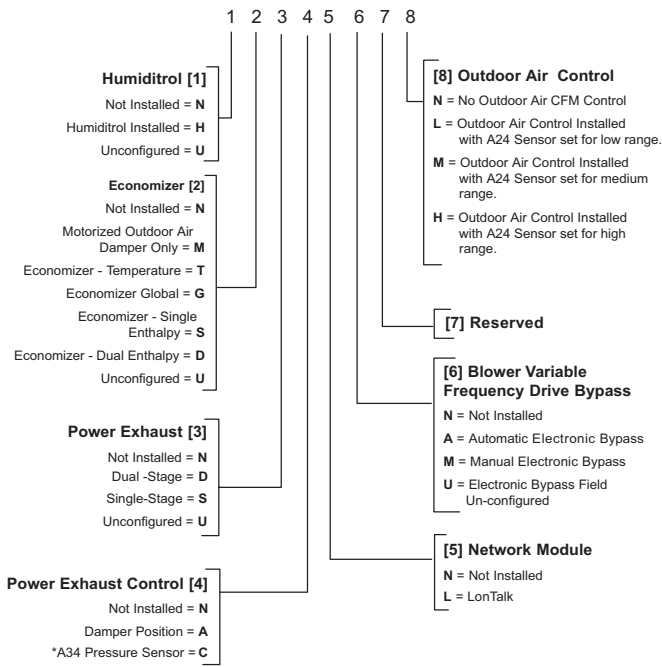
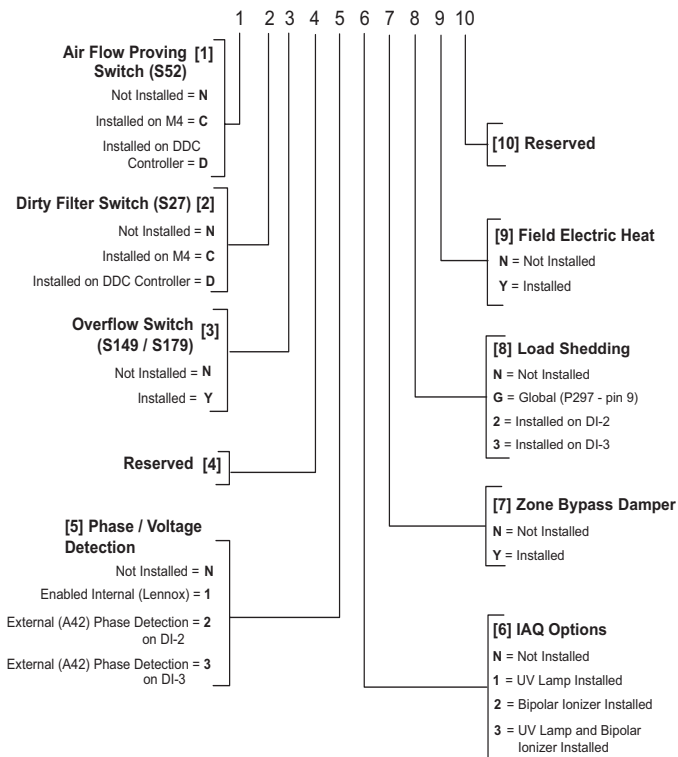

Figure 7. Configuration ID 1
Figure 8. Configuration ID 2
- RTU Information. Configuration ID 1 and 2 can be entered here. See figures “Figure 7. Configuration ID 1” on page 12 and “Figure 8. Configuration ID 2” on page 12 for further details.